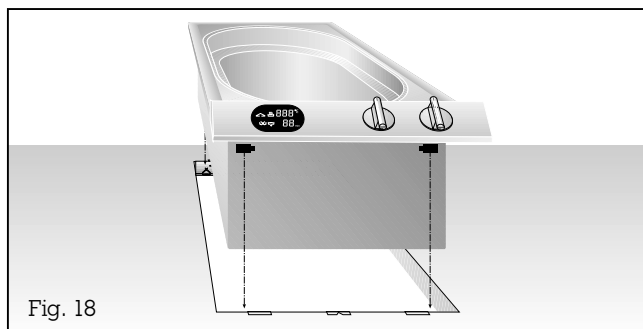

Fig. 18
- **Lower the appliance into the worktop.** Make sure that the engaging lugs on the appliance lie exactly on the clamping springs. Press the appliance firmly into the worktop. The engaging lugs on the appliance “snap” into the clamping springs (Fig. 18).